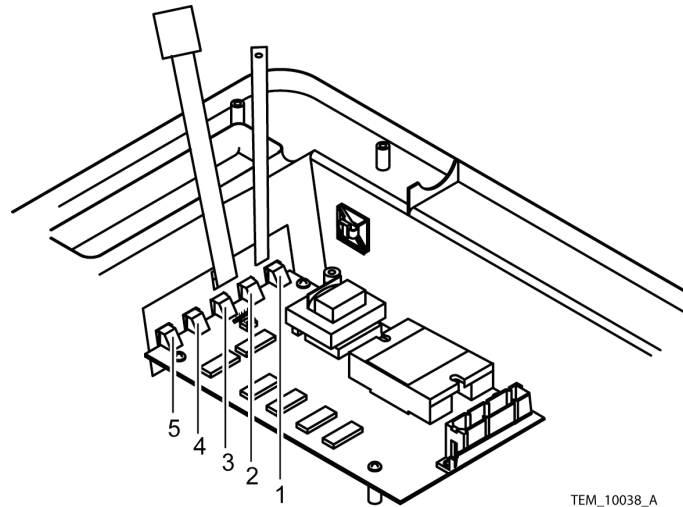

Figure 27. Control PCB Lights
Carefully align the lights on the Control PCB with the control panel key pad push buttons. Failure to do so could damage the key pad or the Control PCB lights. See Figure 27, items 1-5.